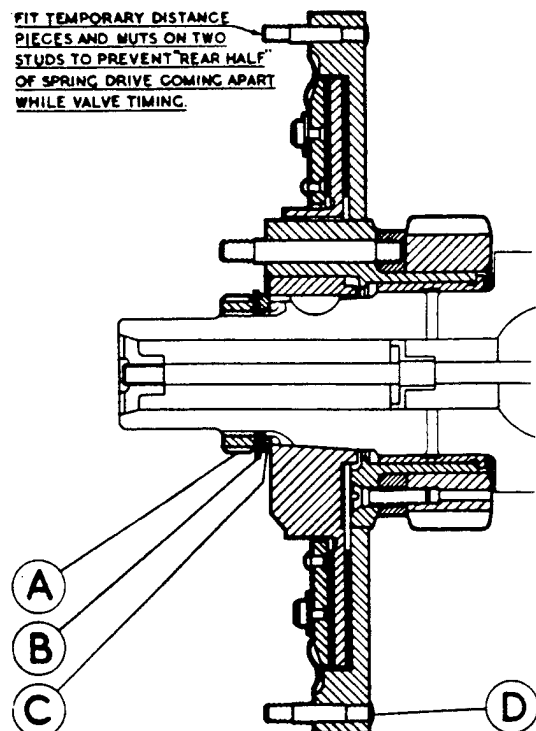
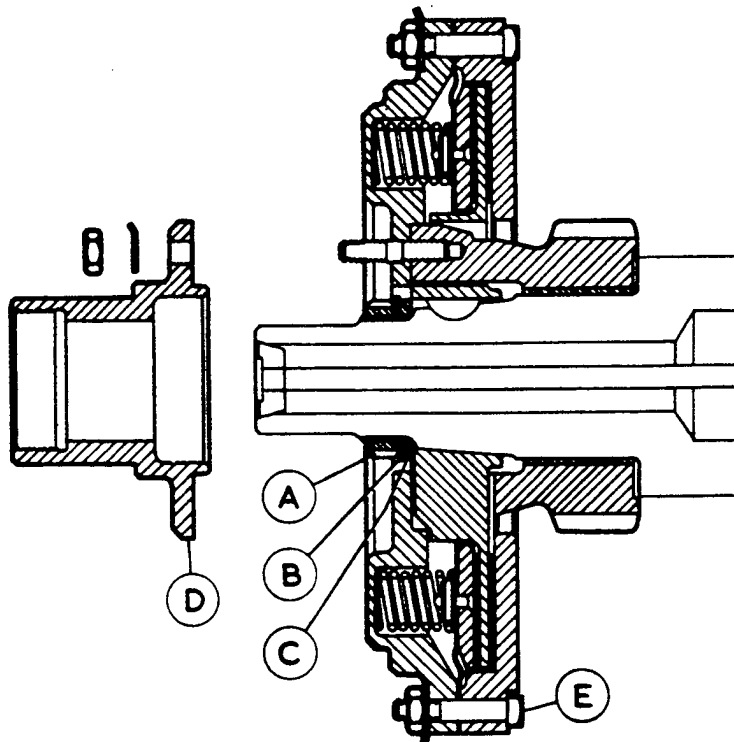

FIG.5 SECTION - 'REAR HALF' OF 'PRE-BENCH' TYPE CRANKSHAFT DAMPER (SPRING TYPE)
FIG.6 SECTION 'BENCH' TYPE CRANKSHAFT DAMPER
With the camshaft set in position, the procedure differs according to the type of crankshaft damper fitted. The early or 'Pre-Bench' type, was fitted from Chassis Nos. B-2-AK to B-126-DA inclusive and the later 'Bench' type from Chassis No. B-128-DA and onwards. The two dampers may be distinguished by the fact that the 'Pre-Bench' type has twelve studs (D, Fig.5) fitted to the rim of the rear damper wheel, whereas the 'Bench' type has six bolts (E, Fig.6).
- (v) Offer up the rear half of the damper, assembled as shown in Fig.5, to the crankshaft nose, and align the three keyways in the bore of the damper hub with the keys in the crankshaft nose.
- (vi) Fit the plain washer (C, Fig.5), a new locking washer 'B' and the serrated retaining nut 'A'. Tighten the nut with tool 3759/T1007 but do not lock.
- First loosen the serrated nut 'A' (Fig.5) and with extractor 3759/T1016 or tool 1617/T1003, withdraw the damper about $5/16"$ from its fully home position on the crankshaft nose. Remove the camshaft gear and reposition it as required, ensuring that the circular locking plate is refitted.
- (ix) When the correct timing has been obtained, fit two of the four camshaft gear fixing studs, new lockwashers and nuts. Fully tighten and lock the nuts. Remove the two temporary setscrews and similarly fit the other two studs. Tighten and lock the serrated damper retaining nut (A Fig.5).
- (xiv) Fit the damper, assembled less the flanged hub D as shown in Fig.6, to the crankshaft nose. Fit the plain washer 'C', a new lockwasher 'B' and the serrated nut 'A'. Tighten the nut with tool 3759/T1007 but do not lock.
- (xviii) Refit the flanged hub 'D', Fig.6 to the damper, ensuring that the co-relation marks 'O' on the front damper wheel and the hub are in alignment.
- (iii) Offer up the rear half of the 'Pre-Bench' type damper assembled as in Fig.5, or the 'Bench' type damper less the flanged hub as in Fig.6, to the crankshaft nose, and align the three keyways in the bore of the damper hub with the keys in the crankshaft nose. Note the tooth on the camshaft gear which most nearly mates with the crankshaft pinion, and turn the damper and pinion in a CLOCKWISE direction two teeth relative to the camshaft gear. Turn the crankshaft in its running direction just sufficiently to re-align the keys and keyways and press the damper forward on to the crankshaft nose, engaging both keys and gears. To ease full engagement of the gears, rock the crankshaft at the flywheel end whilst urging the damper fully home.